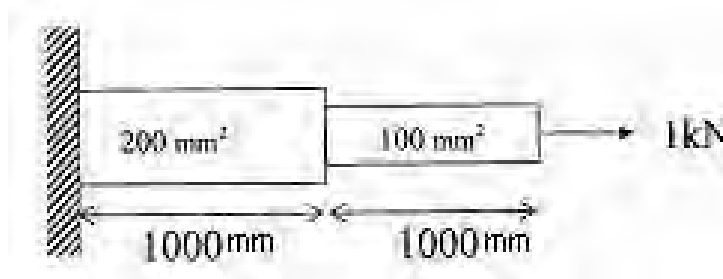

Figure 1
6. Find the displacement at the free end and the reaction force for the following problem. Assume $E = 2 \times 10^5 \text{ N/mm}^2$. {As shown in the Figure1} [16]